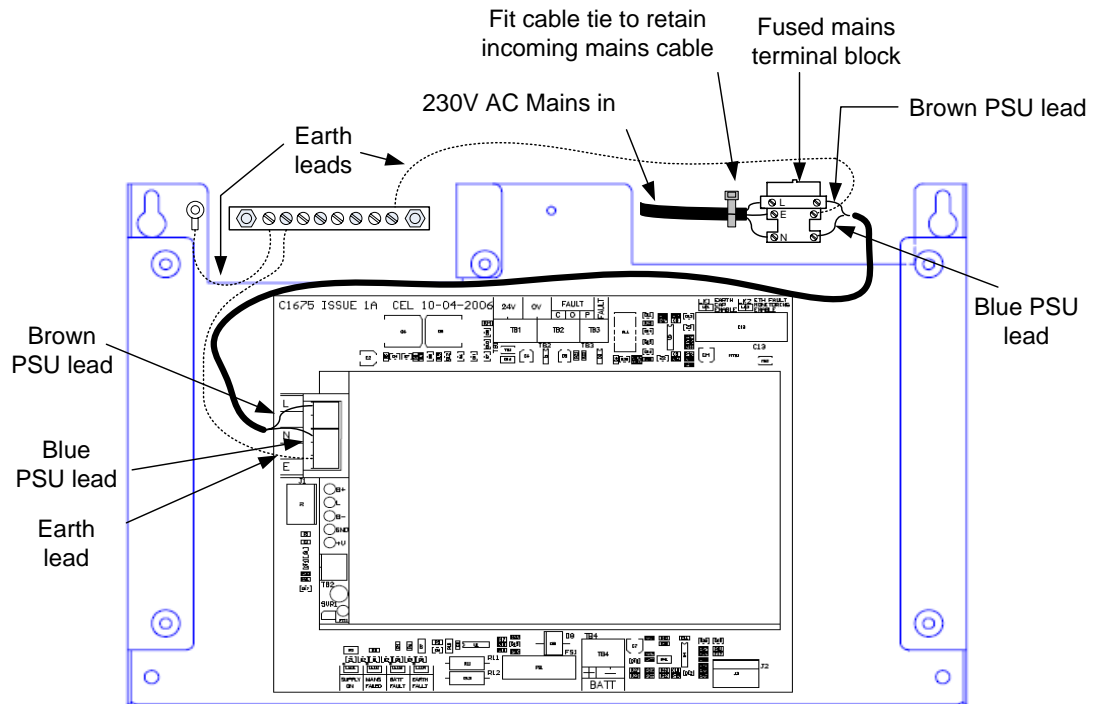

Figure 9 – 32 Zone 40-Character Voyager power supply layout
7. Disconnect the earth strap connecting the backbox and chassis at the earth bar. The arrangement is shown in .Figure 9.
17. Connect the mains-in earth to the primary earth point on the backbox indicated in Figure 9. This is the earth bar and is labelled  .
19. Connect the mains-in live to the mains terminal block on the power supply as indicated in Figure 9.
20. Connect the mains-in neutral to the mains terminal block on the power supply as indicated in Figure 9.
22. Reinstallation of the chassis is the reverse of removal. Reconnect all wires as shown in Figure 9. Ensure no cables are trapped between the chassis and backbox.
26. Connect the black battery lead to one of the negative battery terminals on the p.s.e. The position is shown in Figure 9. Push the connector on the other end of the lead onto the negative (black) terminal of the left-hand battery.
27. Connect the red battery lead to one of the positive battery terminals on the p.s.e. The position is shown in Figure 9. Push the connector on the other end of the lead onto the positive (red) terminal of the right-hand battery.
Figure 9 shows the layout of the Voyager panel power supply. The supply should be earthed as illustrated.